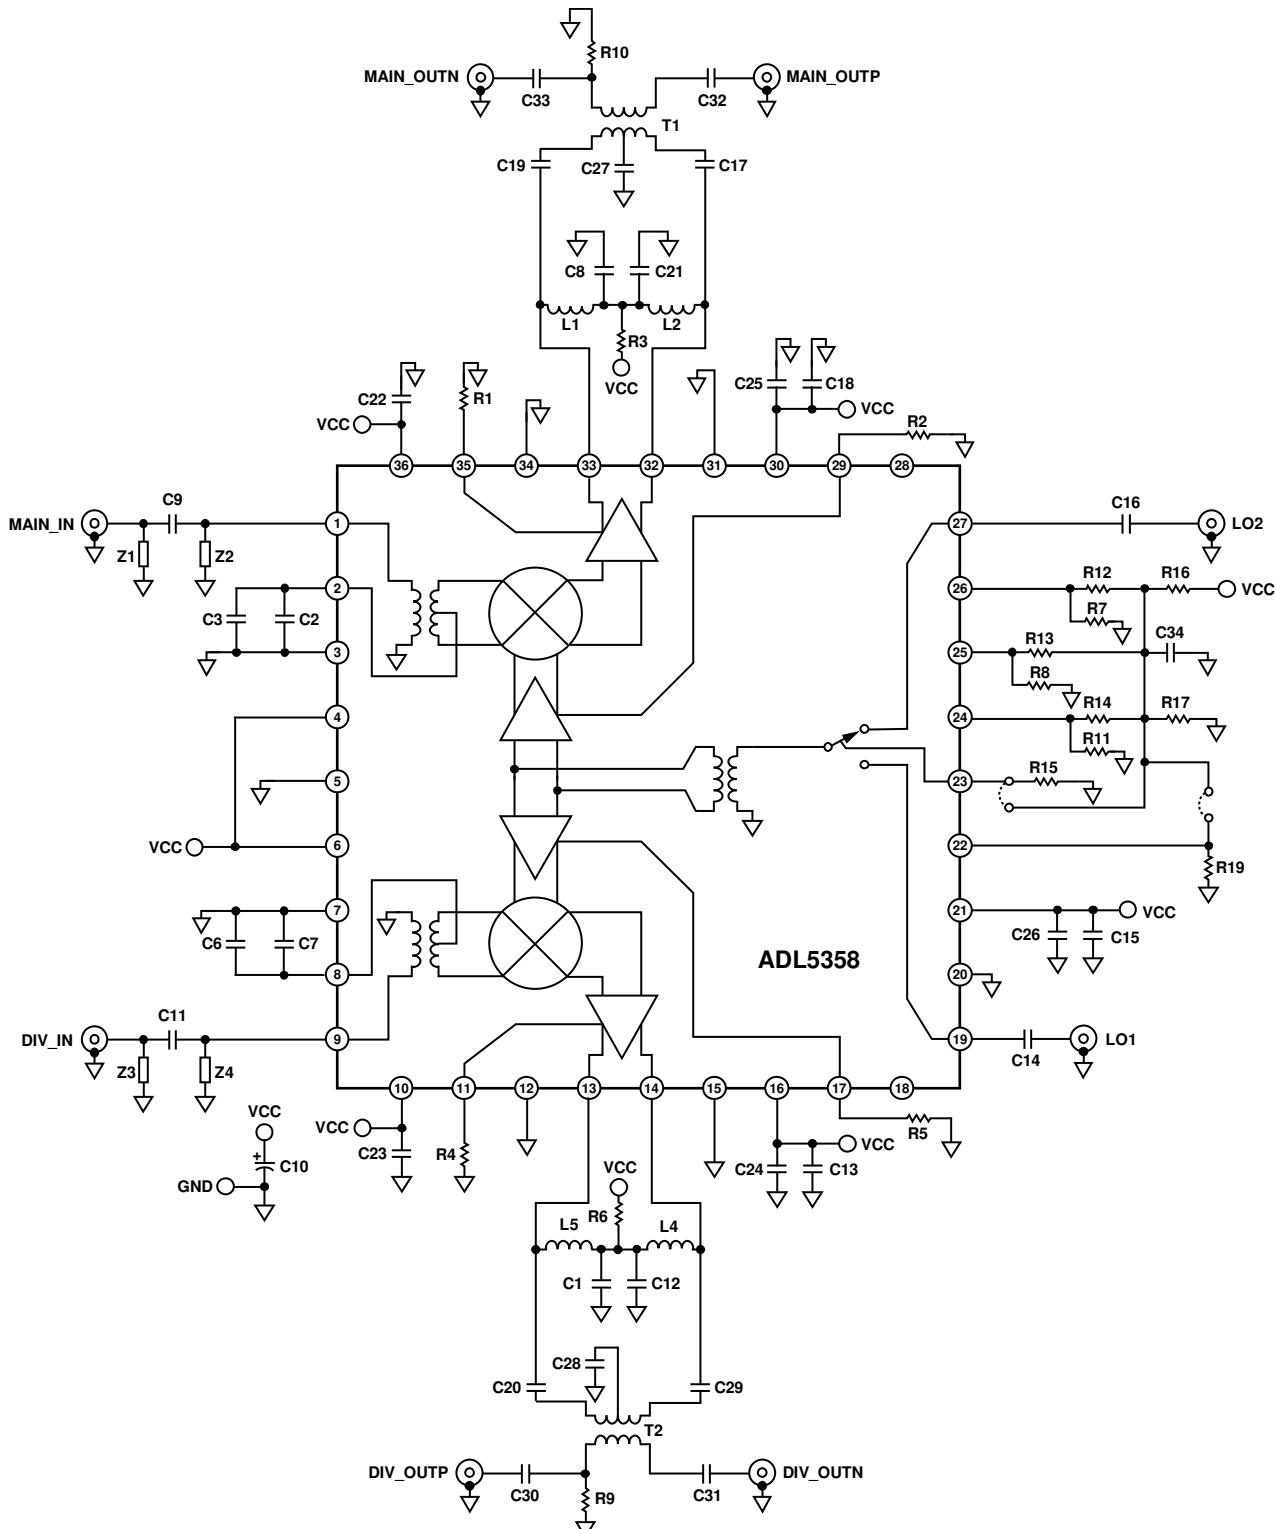

Figure 53. Typical Application Circuit
The ADL5358 mixer is designed to downconvert radio frequencies (RF) primarily between 500 MHz and 1700 MHz to lower intermediate frequencies (IF) between 30 MHz and 450 MHz. Figure 53 depicts the basic connections of the mixer. It is recommended to ac-couple the RF and LO input ports to prevent non-zero dc voltages from damaging the RF balun or LO input circuit. The RFIN matching network consists of a series 8 pF capacitor to provide the optimized RF input return loss for the desired frequency band.
The real part of the output impedance is approximately $200\ \Omega$, as seen in Figure 30, which matches many commonly used SAW filters without the need for a transformer. This results in a voltage conversion gain that is approximately 6 dB higher than the power conversion gain, as shown in Table 3. When a $50\ \Omega$ output impedance is needed, use a 4:1 impedance transformer, as shown in Figure 53.